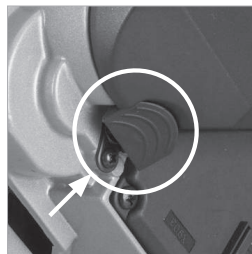

Fig. 40
- Press the black arbor lock button to lock the arbor. **(Fig. 40)**